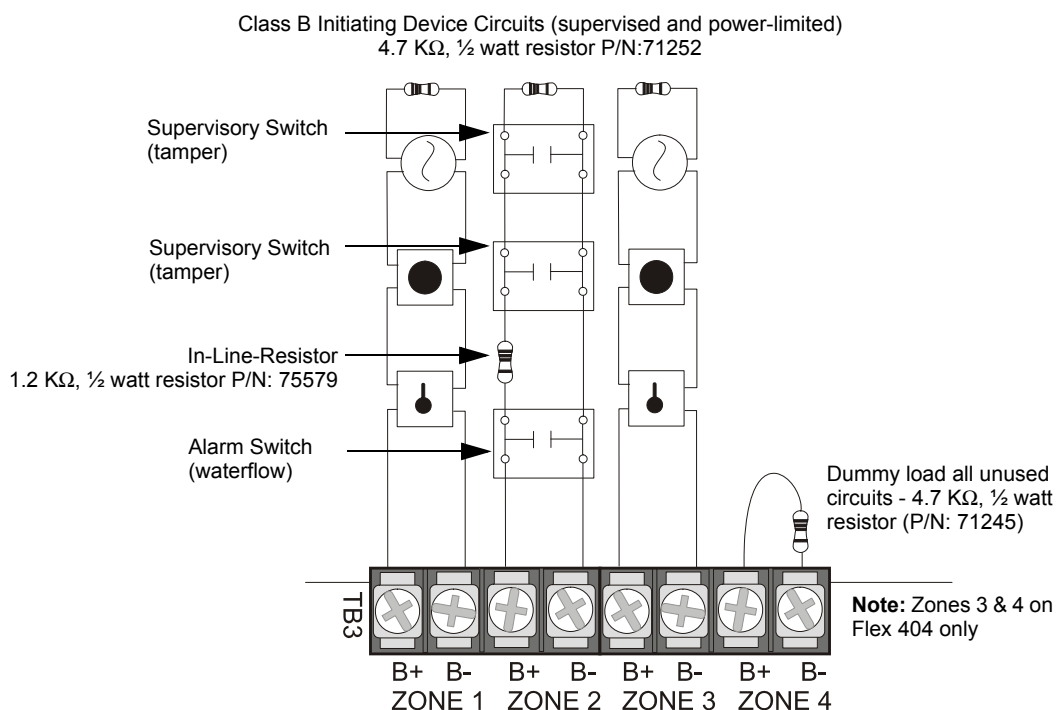

Figure 2.5 Style B Combination Circuit on Zone 2 of the Flex 404
- ✓ The Waterflow Alarm Switch(es) must connect to the FACP Initiating Device Circuit before the In-Line Resistor as shown in Figure 2.5
- ✓ The Waterflow Supervisory Switch(es) must connect to the FACP Initiating Device Circuit after the In-Line Resistor as shown in Figure 2.5